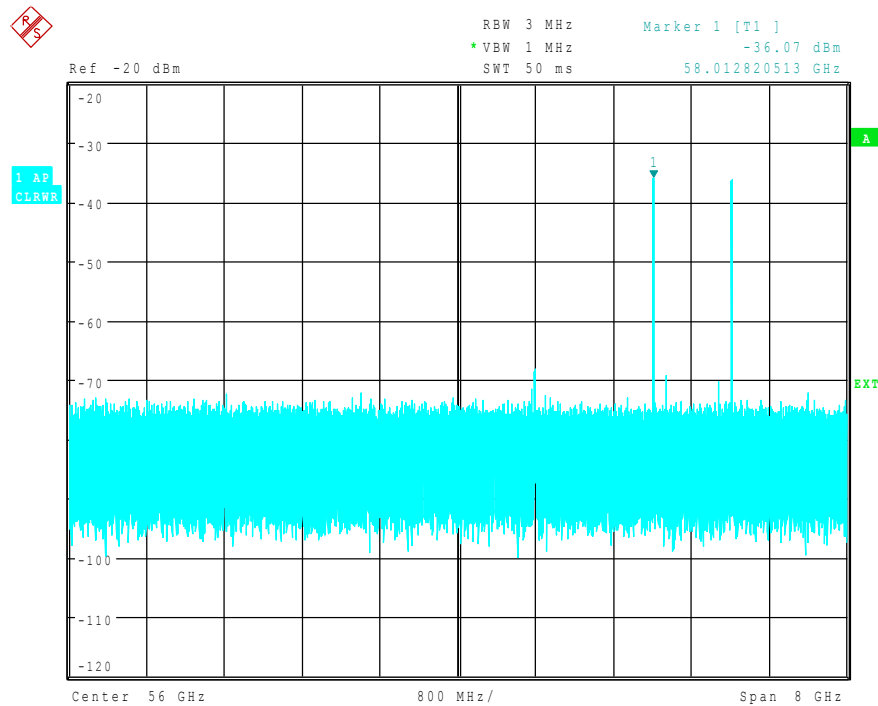

Fig. 4.59 Spectrum at the multiplier output recorded with an external mixer
- The display shown in Fig. 4.59 is obtained.
The spectrum represented in Fig. 4.59 contains the input signal and also a large number of unwanted mixer products. Two functions are provided by the R&S FSP to identify real input signals. The implemented methods are described in section "Signal Identification" on page 4.273. The *AUTO ID* function is used in this example.